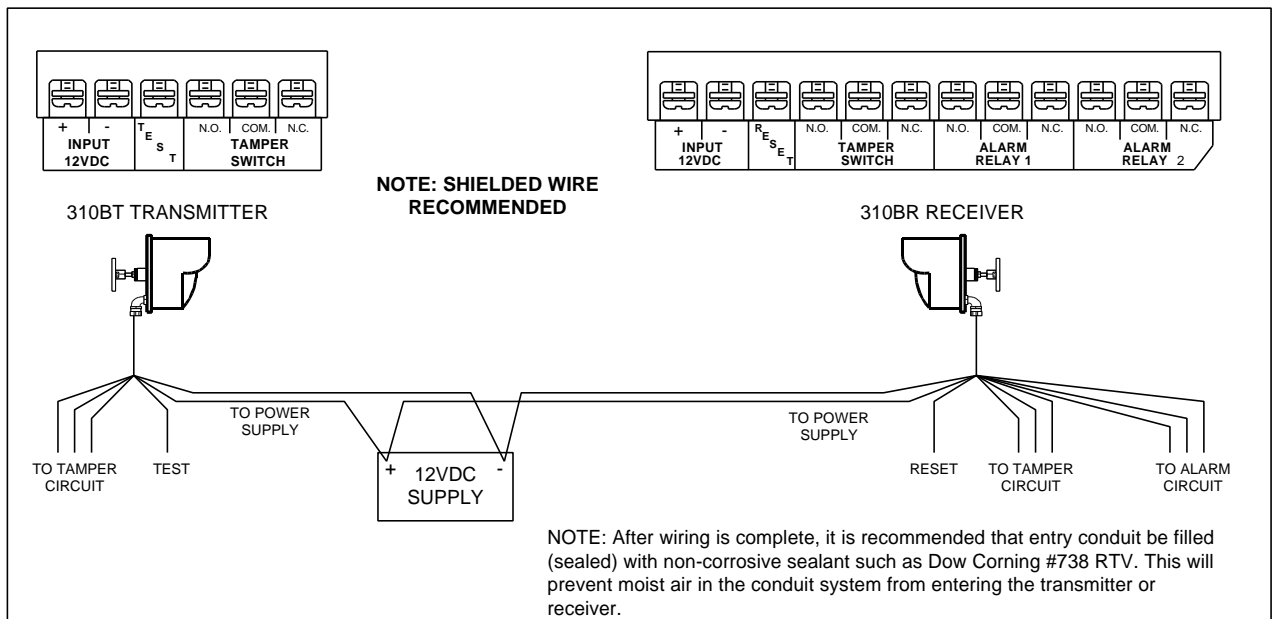

Figure 15 – Wiring Diagram
SOUTHWEST MICROWAVE offers two optional power supply combinations. Model PS50 0.3 Amp Power Supply with Model BA30 6.5AH Battery will power one Model 310B T/R Link. Model PS50 may be located either indoors or outdoors in a weatherproof enclosure such as SOUTHWEST MICROWAVE Model BX15. Model PS40 1.6 Amp Power Supply with Model BA20 20AH Battery will power up to five Model 310B T/R Links (with proper wiring per Figure 15). Model PS40 may be mounted either indoors or outdoors in a rainproof enclosure such as SOUTHWEST MICROWAVE Model BX20 or BX35.
3. Make connections to the terminal strip according to labeled terminal functions (See Figure 15.)
3. Make connections to the terminal strip according to labeled terminal functions. (See Figure 15.)
1. To test the Transmitter, the a voltage of 5 to 14VDC must be applied to terminal “TEST” on the Model 310BT. (See Figures 15 and 17.)
5. To reset the link to the normal non-alarm condition, 5-15 VDC must be applied to terminal “Reset” on the Model 310BR. (See Figures 15 and 16.)